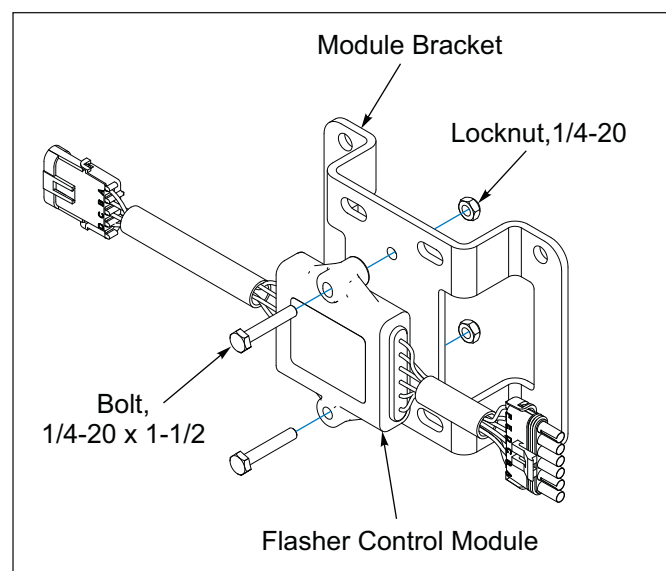

Figure 2-57: Light Module and Bracket
5. Attach the Light Module to the Module Bracket with 1/4-20 x 1-1/2 Bolts and Locknuts. See Figure 2-57.